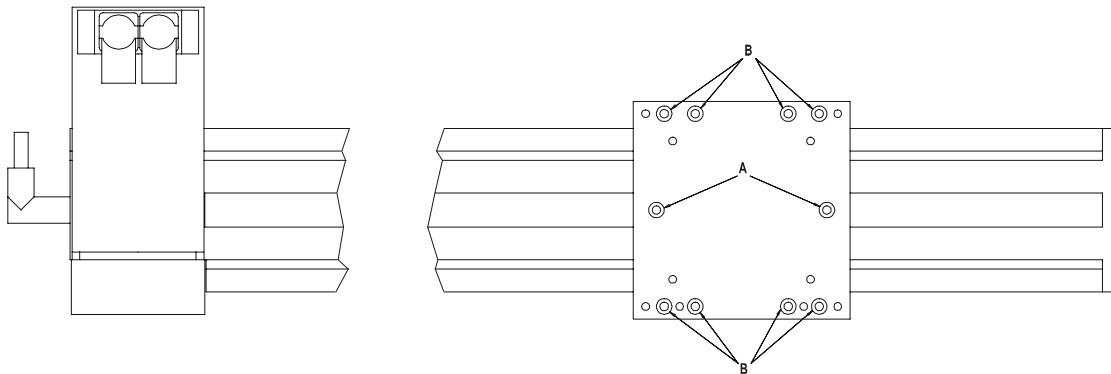

Figure 15: Top View Lineare Module
- Detach the carriage unit from the driver (toothed belt) by undoing the two connecting screws (A) (see Figure 15, page 24)
- Before the carriage unit is fitted, the screw connections (Figure 15, B) between the carriage plate and clamping block (see Figure 15, page 24) must first be undone on one side. This is to prevent distortion of the linear bearings while they are being drawn onto the guide.
- Tighten the connecting screws (Figure 15, B) between the carriage plate and clamping block.
- Connect the driver and carriage unit (Figure 15, A).
- Detach the carriage unit from the driver by undoing the two connecting screws (see Figure 15, **A**).
- Connect the carriage unit and driver (see Figure 15, **A**).